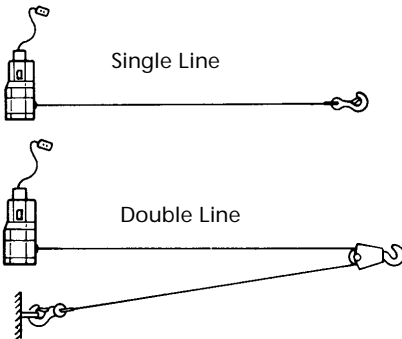

Figure 2
1. The SAC1000 winch is rated at 1,000 pounds (454 kg) (single line) capacity on the wire rope layer closest to the drum. **DO NOT OVERLOAD. DO NOT ATTEMPT PROLONGED PULLS AT HEAVY LOADS.** Do not maintain power to the winch if the motor stalls. Overloads can damage the winch and/or the wire rope and create unsafe operating conditions. **FOR LOADS OVER 750 POUNDS (340 KG), WE RECOMMEND THE USE OF THE OPTIONAL PULLEY BLOCK TO DOUBLE LINE THE WIRE ROPE** (Figures 2 & 17). This reduces the load on the winch and the strain on the wire rope by approximately 50%.